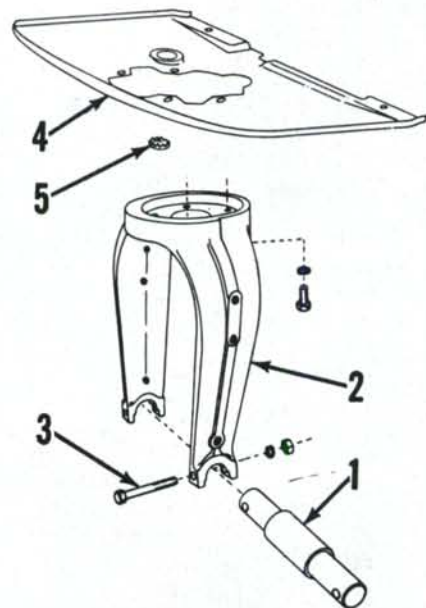

Fig. 1—Exploded view of single front wheel fork and associated parts.
1. WHEEL ASSEMBLY. The single front wheel assembly may be removed after raising front of tractor and removing bolts (3—Fig. 1) at each end of front wheel spindle (1).
2. R&R SINGLE FRONT WHEEL FORK. Remove wheel assembly as outlined in paragraph 1. Then unbolt and remove fork (2—Fig. 1) from steering sector shaft (14—Fig. 8 or Fig. 24).